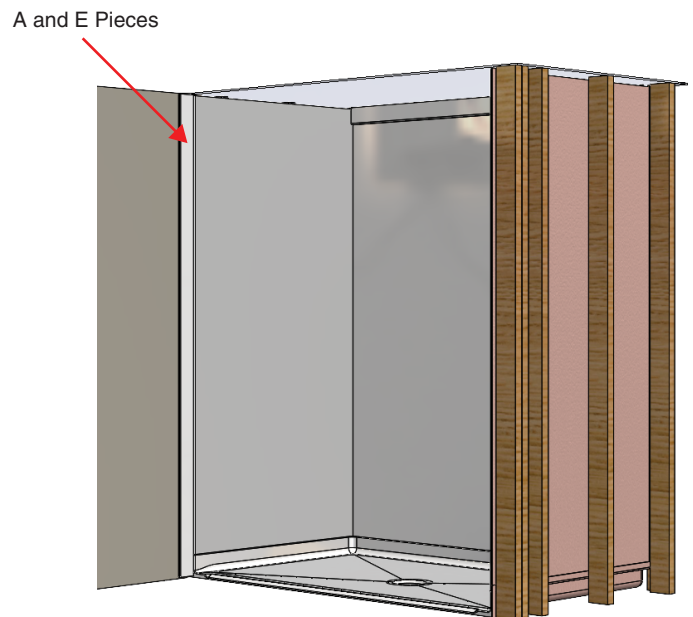

**Figure 6**
- 4 Measure the unit height and trim the A and E pieces to this dimension. (Fig. 6)